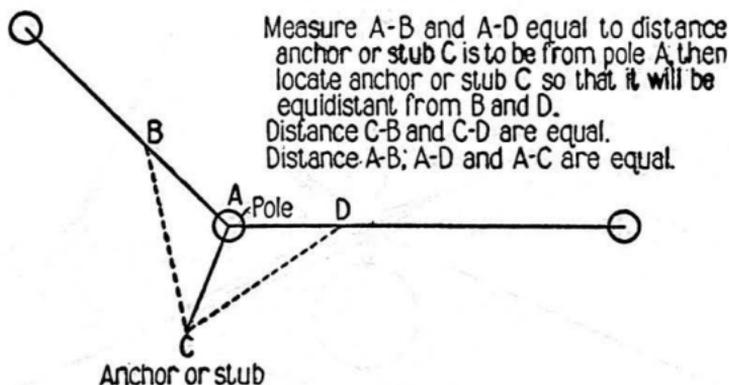

Fig. 8
3.05 Measurements made as indicated in Fig. 8 will locate the bisector of the corner angle when locating anchors or guy stubs.